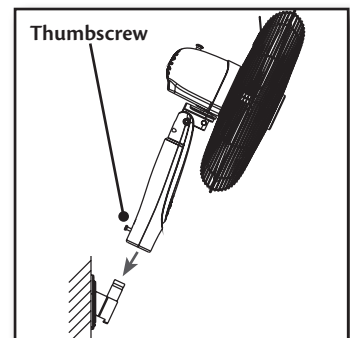

Figure 13.
7. Insert the Wall Mount Adapter (11) shaft into the Fan assembly. **Figure 13.**